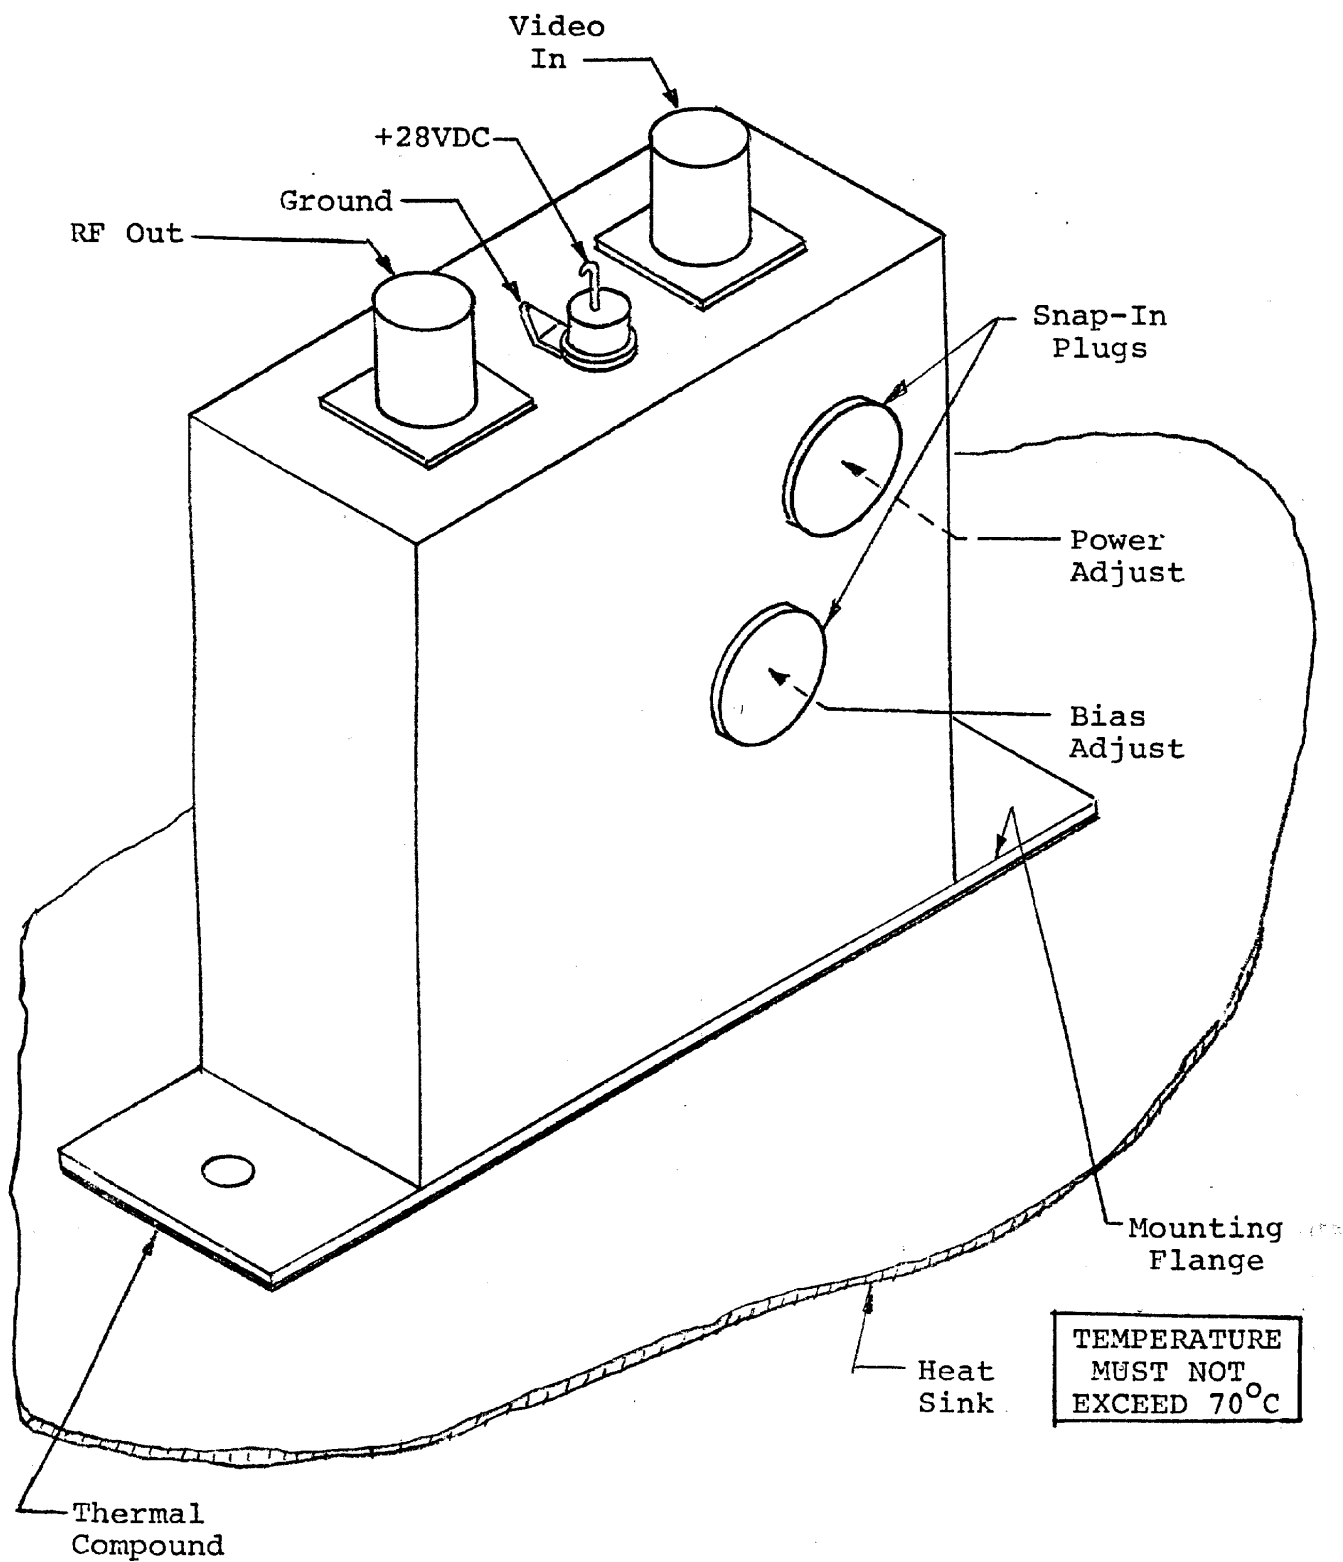

Figure 1 - Installation, Series 230 Driver
- A. Install the Series 230 Driver on a heat sink as shown in figure 1. Use heat conducting compound between the Driver and mounting face and the heat sink.
- B. With no d-c power applied, connect the +28VDC line to the center terminal of the feed-thru terminal as shown in figure 1. **DO NOT APPLY POWER.**
- 1. Remove the BIAS ADJ and PWR ADJ snap-in plugs from the driver case (see figure 1).